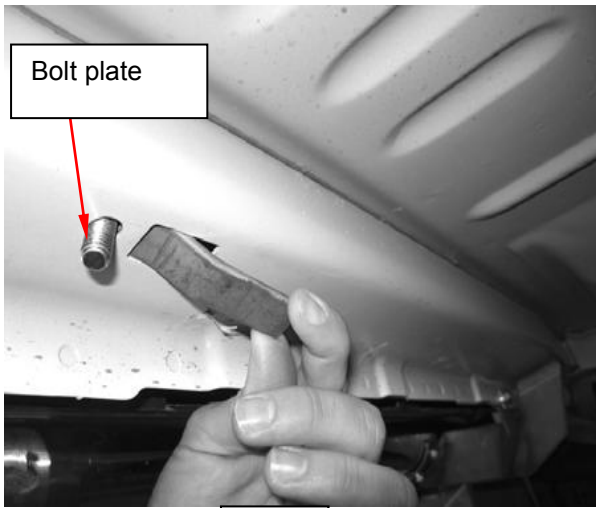

Fig 1
- Starting from rear of the vehicle on the driver side. Insert (1)M10x25 mm Bolt Plate into the rectangular hole located in the side panel, and threaded Bolt Plate drops through round hole(Fig 1 ).